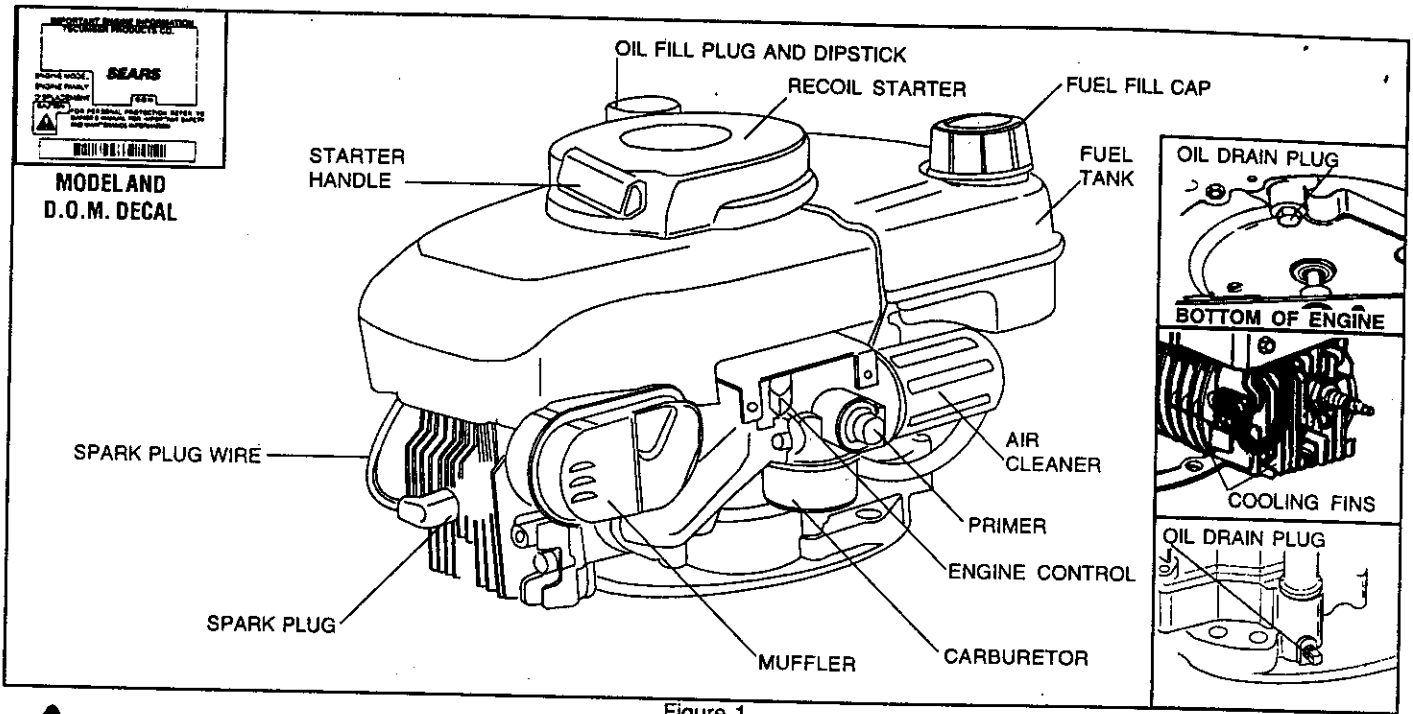

Figure 1
- B. Clean area around oil fill plug (see Figure 1).
- ④ **CHECK THE FOLLOWING:**
- B. Be sure spark plug wire is attached to spark plug (see Figure 1).
- ① Move ENGINE CONTROL (see Figure 1) to HI Position.
② START ENGINE
ENGINE SPEED: Engine speed is controlled by the ENGINE CONTROL (see Figure 1).
- ① Move ENGINE CONTROL (see Figure 1) to STOP.
② AFTER ENGINE IS STOPPED:
C. Remove oil drain plug and oil fill plug to drain oil (see Figure 1).